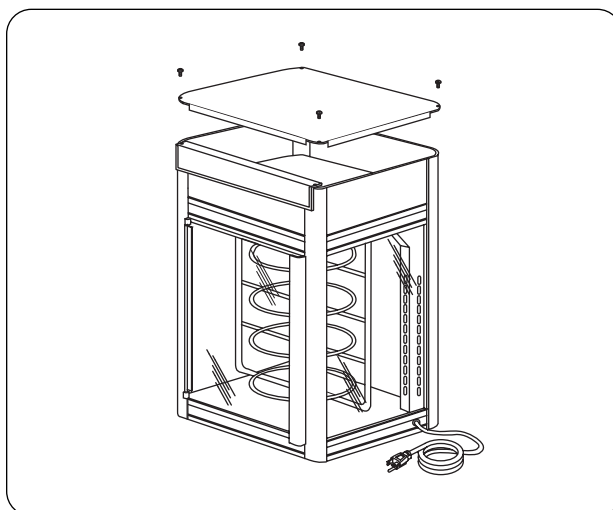

Figure 13. Display Sign
1. Remove the existing screws securing the top cover in place, position the sign holder over the screw holes and reinstall the screws. (See Figure 13.)